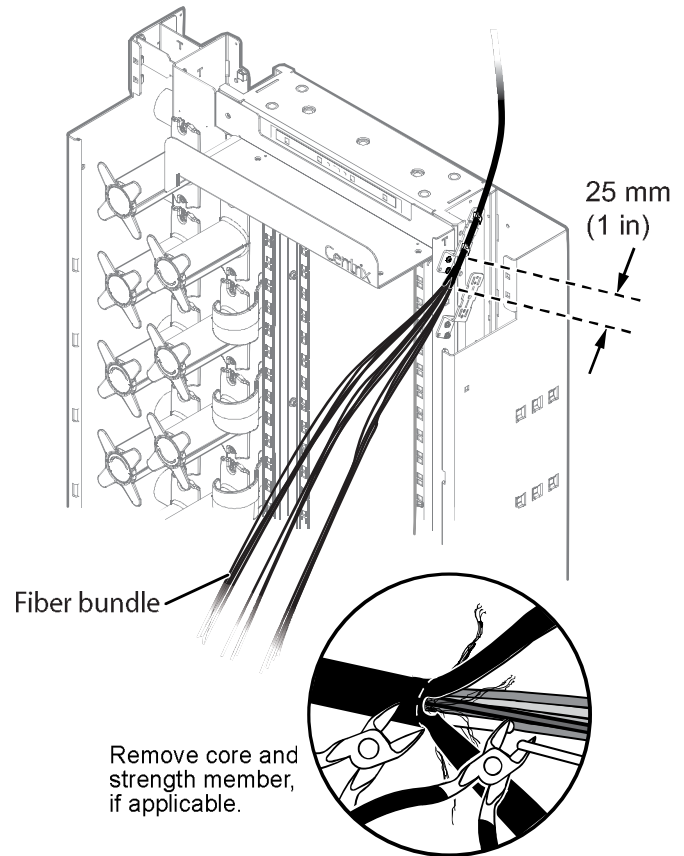

Figure 4
Step 3: Cut away sheath to 25 mm (1 in) past the strain-relief point at the housing (Figure 4).